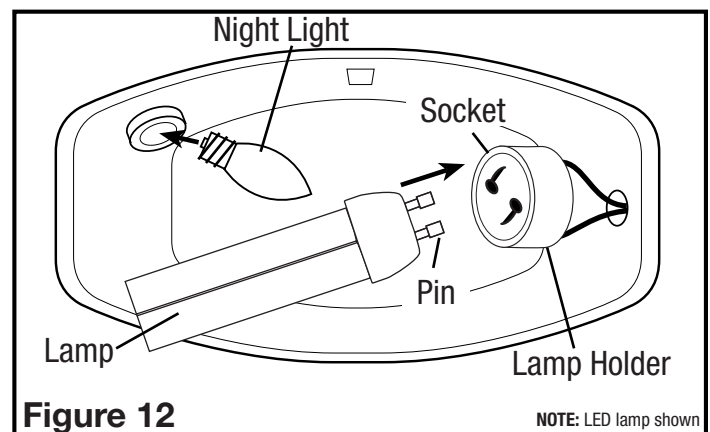

Figure 12
4. Install the included lamp into the lamp holder by lining up the pins on the lamp base to the socket of the lamp holder and turning the lamp body clockwise until the lamp snaps into place and is firmly seated in the lamp holder. Install a 4 watt maximum type C7 (candelabra base) night light (not included) into the side lamp holder (Figure 12).
3. **Changing the Lamp:** Disconnect power to the unit. Remove grill by pulling downward on grill and squeezing grill springs together to release from housing (**Figure 13**). Remove Reflector from grill by sliding the reflector notches from beneath the lens clips on grill. (**Figure 12**).